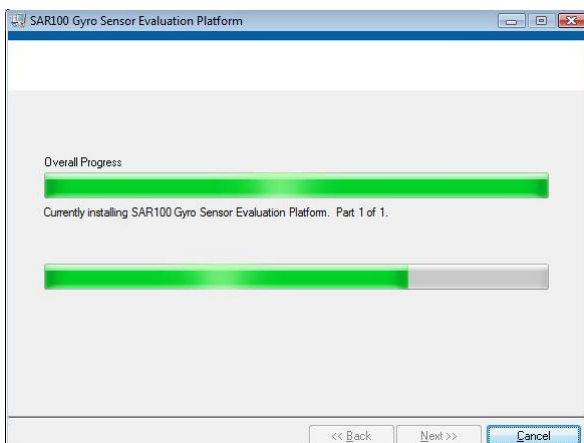
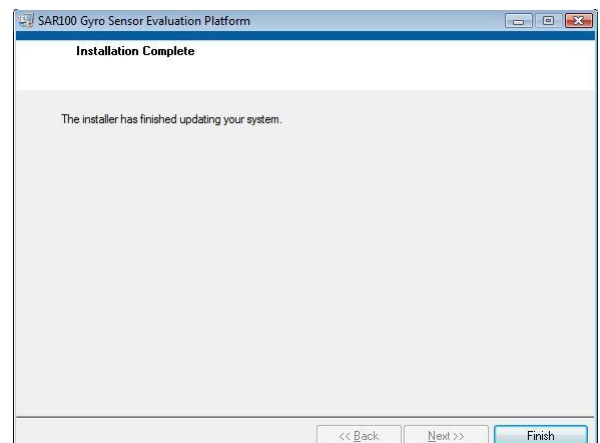

Figure 4: Installation in progress
Figure 5: Installation complete
4. Complete the installation process by following the on-screen instructions. When the installation is completed, click “Finish”. See Figure 4 and Figure 5.